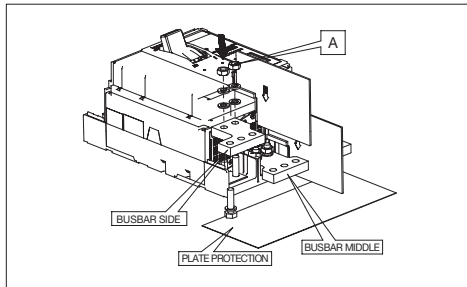

Fig.1
1. Install the BUSBAR to the circuit breaker as shown in the fig. 1, 2.